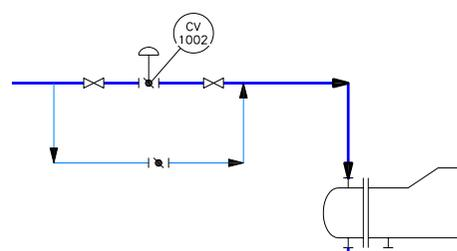

Figure 2-58 Location of gate valves and the butterfly valve
- Similarly, place two gate valves and a butterfly valve on the pipe which is connected to the heat exchanger, as shown in Figure 2-58.